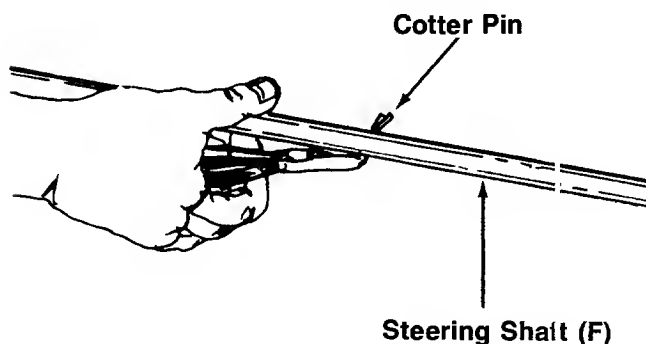

FIGURE 2.—Models 510, 520, 530 and 550
1. Insert the **cotter pin** into the hole on **steering shaft (F)**. Secure in place by bending the ends of the cotter pin in opposite directions. See figure 2.